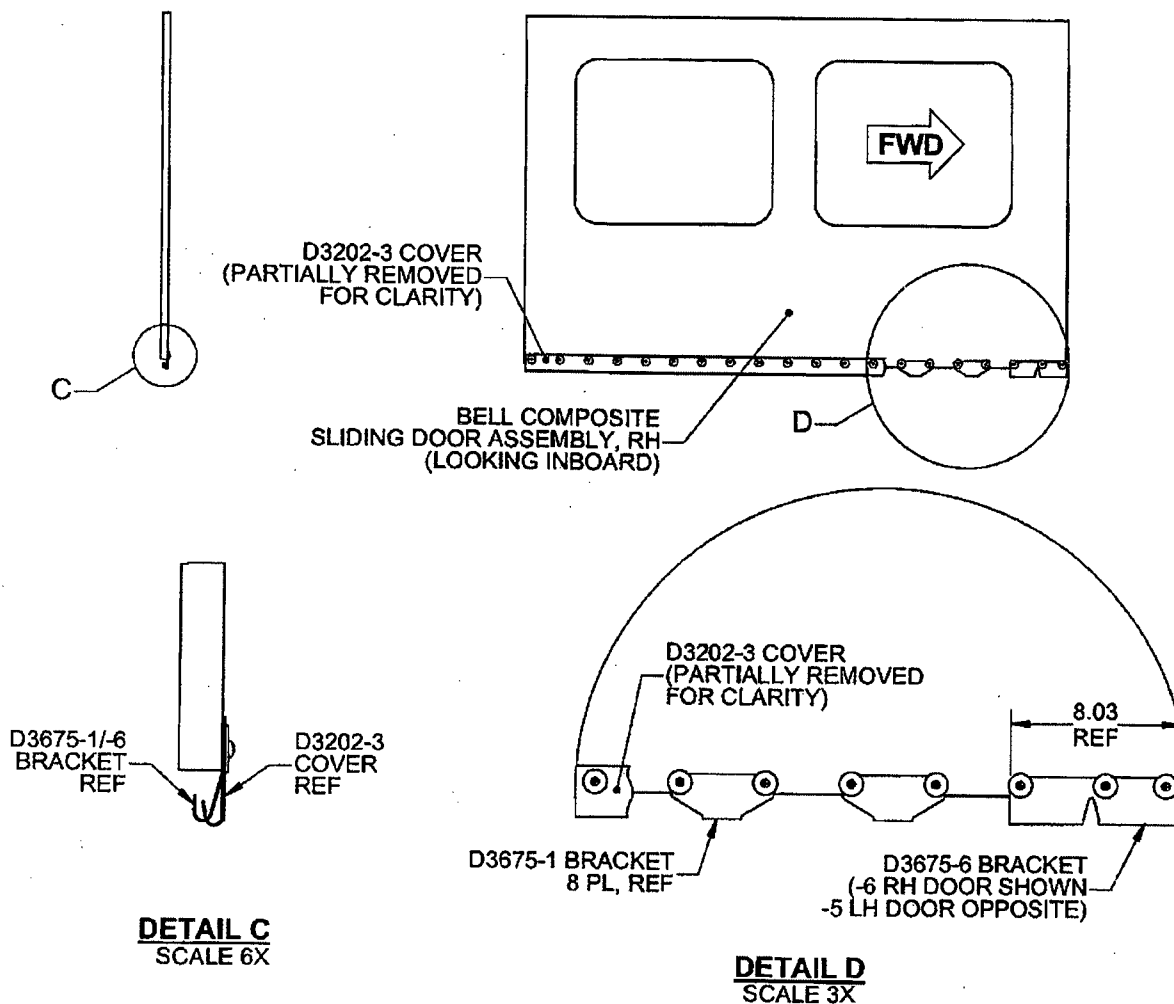

FIGURE 2: D3675-5/-6 BRACKET INSTALLATION ON COMPOSITE DOORS
- 3) Install the D3199-3/-4 or D3675-5/-6 bracket as applicable in lieu of the removed -1 bracket. Refer to Figure 1 Sheet 2 (aluminum doors) or Figure 2 Sheet 3 (composite doors).